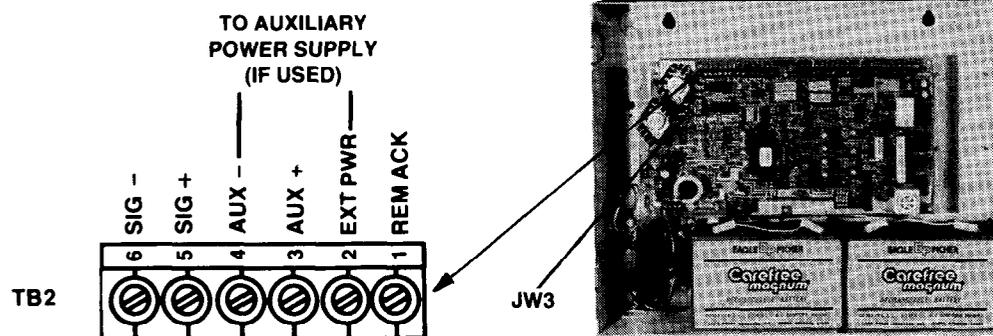

FIGURE 14
5. If using a 24VDC auxiliary power supply, cut jumper JW3 and connect the supply as shown in Figure 14. USE OF EXTERNAL POWER MAY VOID POWER LISTING ON THAT CIRCUIT.